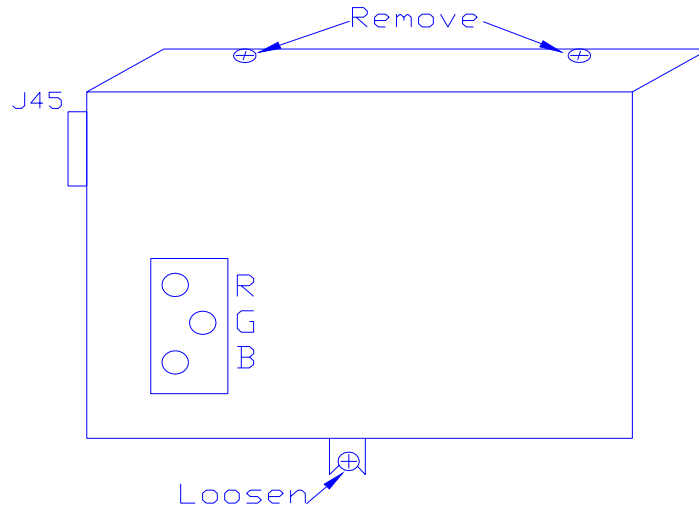

Figure 4-5. High Voltage Power Supply cover.
2. Remove the High Voltage Power Supply cover (Figure 4-5) by removing the 2 pozidrive screws that secure the HVPS at the top of the cover and loosening the 1 pozidrive screw at the bottom of the front flap (Do not remove this bottom screw-it is difficult to reinstall. The HVPS will slide up and over it).
3. Remove the two pozidrive screws from the top of the High Voltage Power Supply (HVPS) cover (Figure 4-5) and loosen the one screw at the bottom of the cover (do not remove the bottom screw-it is difficult to replace-the HVPS will slide up and over it).